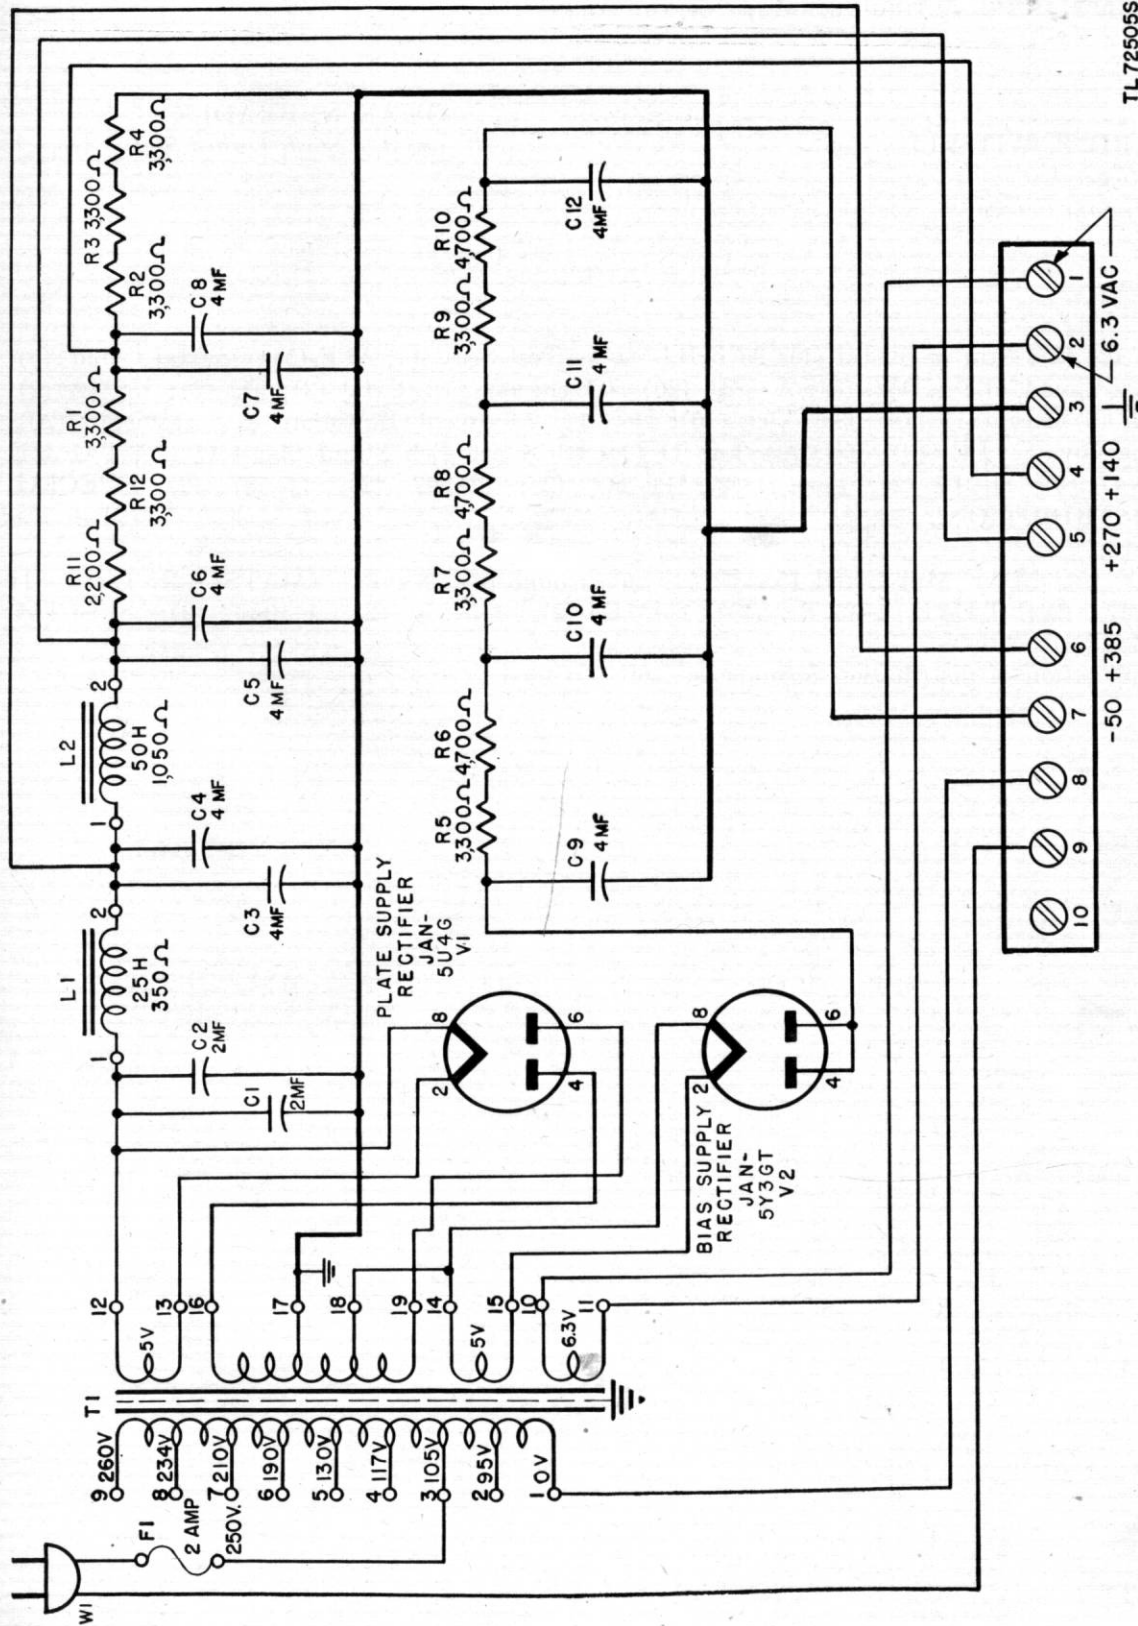

Figure 50.1 (Added.) Power Supply Unit RA-74-D, schematic diagram.
Power Supply Units RA-74-B, -C, RA-84-(*), and RA-94-A are electrically alike except for variations in power transformers T1, T2, and T3 (figs. 50, 51, and 52). The output of * * * input requirements vary. **Power Supply Unit RA-74-D is electrically similar to Power Supply Units RA-74-B and RA-74-C except for the following:** types of tubes used, d-c resistance of L2, number and values of resistors, value of plate supply filter input capacitor, values of bias filter capacitors, reference symbols, and transformer wiring connections (fig. 50.1). Also, the physical location of the resistors and capacitors in Power Supply Unit RA-74-D with serial numbers 1 through 390, Order No. 12618-Phila-47, is not the same as their location in Power Supply Unit RA-74-D with serial numbers 391 through 791, Order No. 6036-Phila.-48.
a. Power transformer T1 (fig. 50.1) is connected to the power source by line cord W1 and is fused by 2-ampere, 250-volt fuse F1. Terminals 8 and 9 of terminal strip E1 are connected when the receiver ON-OFF switch is closed, thus completing the primary circuit of the transformer. The average power consumed is 180 watts.